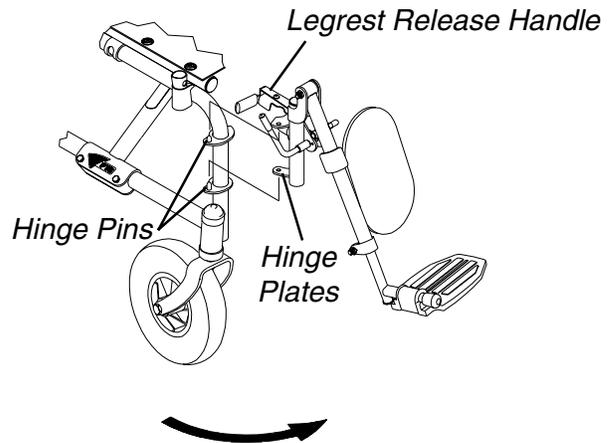

FIGURE 5 - INSTALLING LEGREST ASSEMBLY ONTO THE WHEELCHAIR
2. Place legrest assembly on the outside of the wheelchair and install the hinge plates onto the hinge pins on the wheelchair frame (FIGURE 5).
3. Rotate legrest assembly toward the inside of the wheelchair until it locks in place (FIGURE 5).